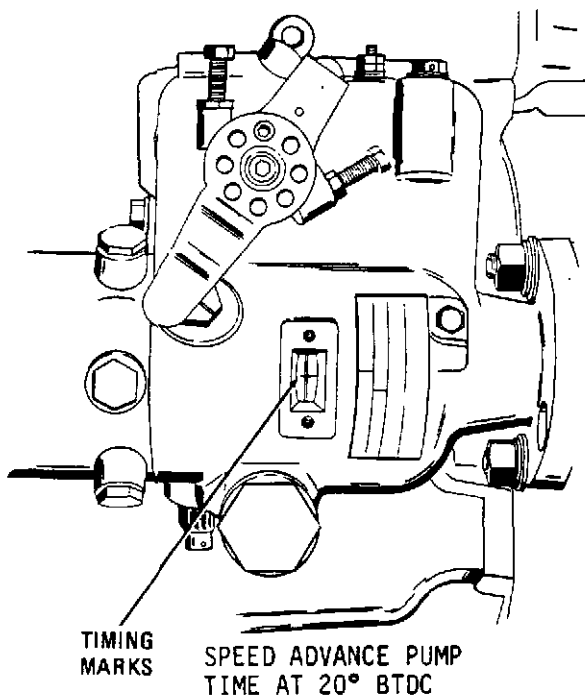

Figure 3-4. Fuel Injection Pump Timing Marks
(2) Remove the timing hole cover plate on the fuel injection pump. The timing marks on the pump should be aligned as shown in figure 3-4. If the marks are not aligned, fine adjustment may be made by loosening the fuel injection pump mounting bolts and rotating the pump slightly. When the marks on the pump are aligned, check that the timing marks on the flywheel are still aligned, then tighten the fuel injection pump mounting bolts. For a large adjustment, loosen the drive shaft and reposition. (Excessive movement of lines will cause over-stress.)
(3) Install timing hole cover plate.